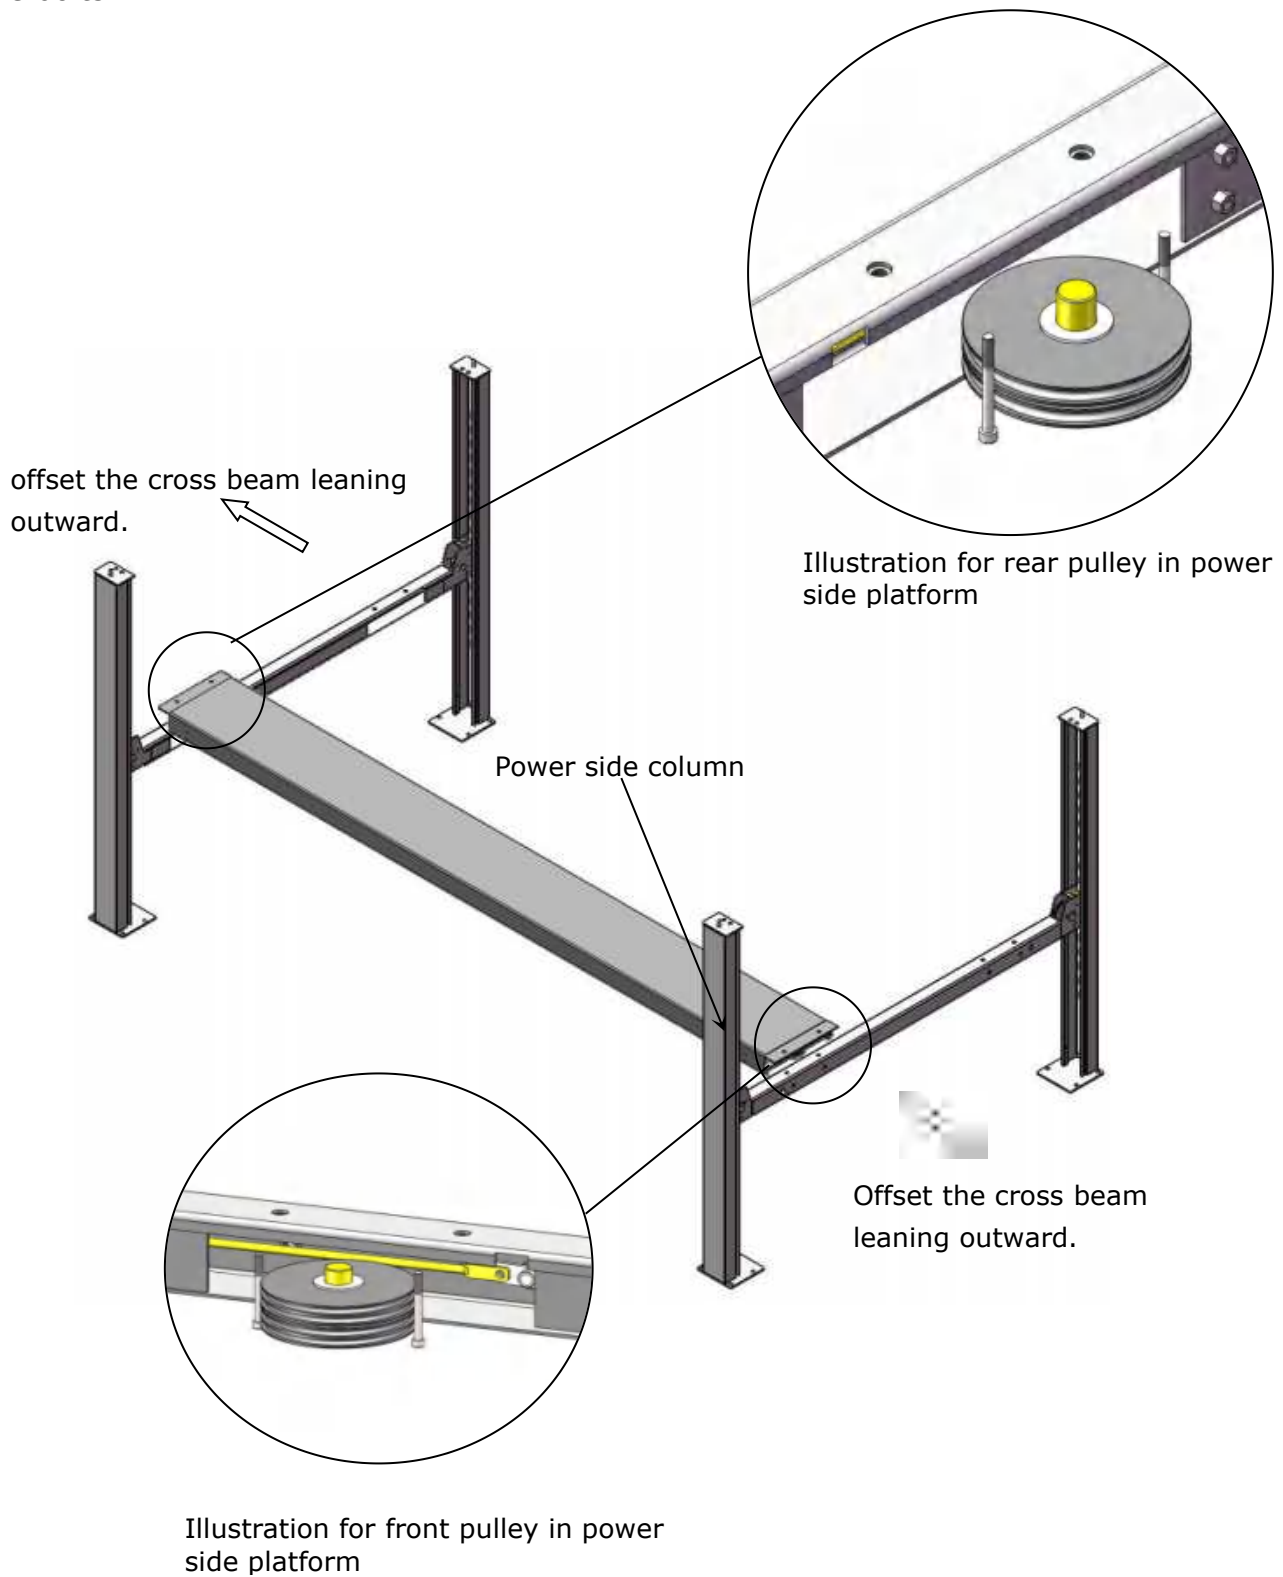

Fig. 20
1. Install the power side platform on the cross beams by a forklift or manually, offset the cross beams leaning outward until the pulleys of both platforms can enter into the cross beam windows (See Fig.20), align holes on the power side platform and cross beam, then screw up the bolts.